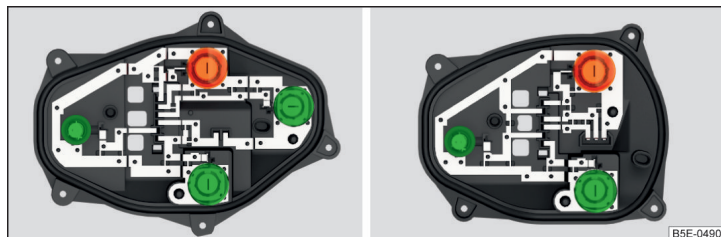

Fig. 228 Inner part of the light: Basic light/light with LED diodes
- Turn the respective light bulb » Fig. 228 until it stops **counter-clockwise** and remove it from the bulb holder.